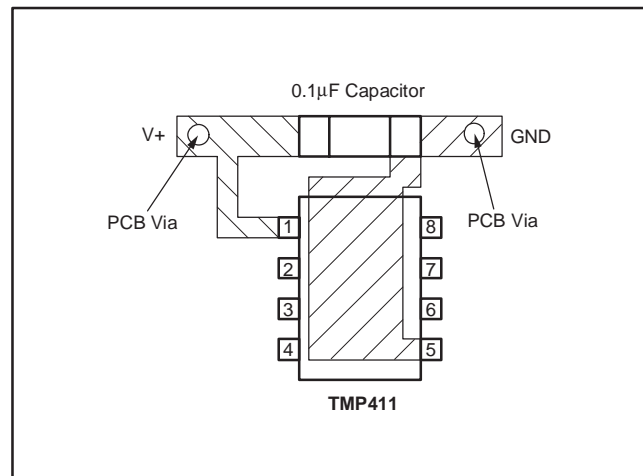

Figure 19. Suggested Bypass Capacitor Placement
4. Use a 0.1µF local bypass capacitor directly between the V+ and GND of the TMP411, as shown in Figure 19. Minimize filter capacitance between D+ and D– to 1000pF or less for optimum measurement performance. This capacitance includes any cable capacitance between the remote temperature sensor and TMP411.